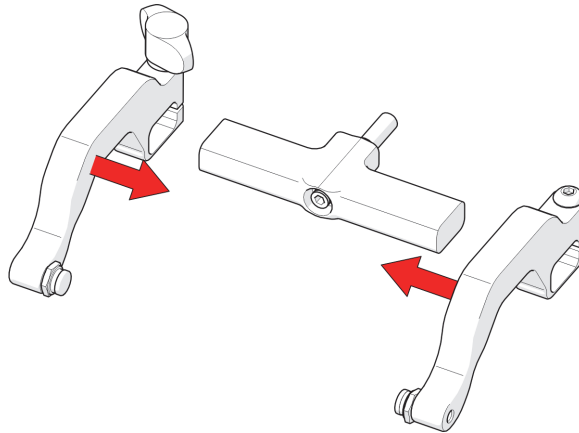

Figure 2-115 Place arms back onto yoke
6. Place the probe holder arms on the yoke and tighten the arm clamp screw and probe holder adjustment knob (see Figure 2-115 on page 121).